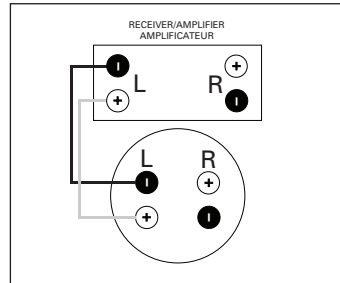

Fig. 8b
*Stereo Input (Single Speaker)* (Fig. 8b): Connect one speaker channel at a time to your receiver/amplifier. Connect the Right red (+) amplifier terminal to the Right red (+) speaker terminal and the Right black (-) amplifier terminal to the Right black (-) speaker terminal. Connect the Left red (+) amplifier terminal to the Left red (+) speaker terminal and the Left black (-) amplifier terminal to the Left black (-) speaker terminal.